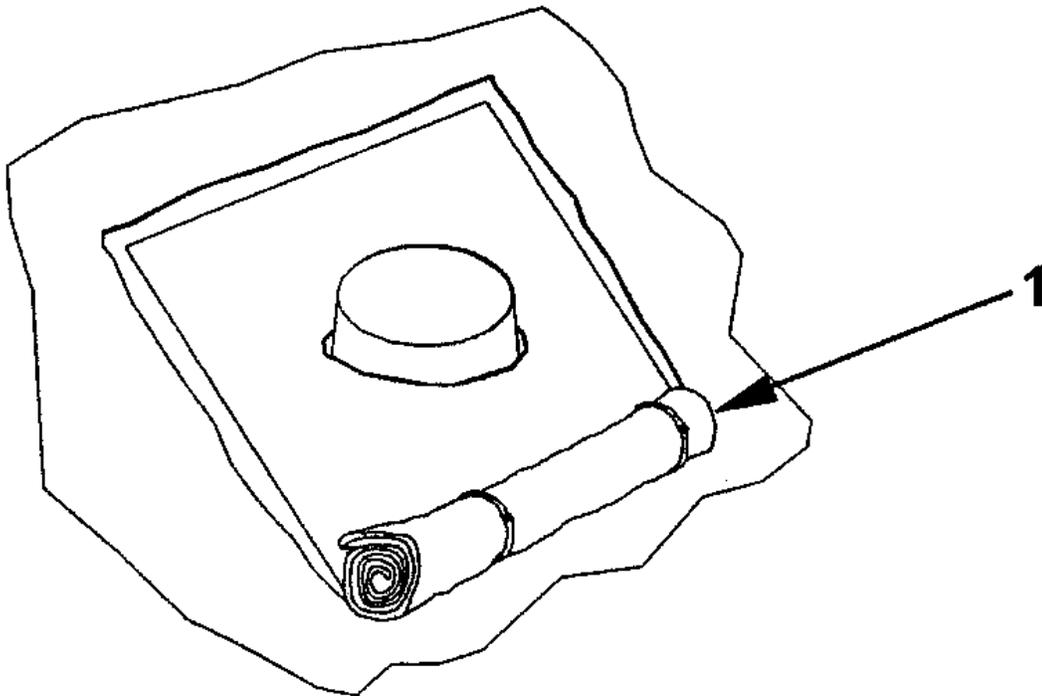

Figure 4
a. (See Figure 4) Securely roll and tie exhaust opening closure flap (1) so it will not touch stack assembly during heater operation.